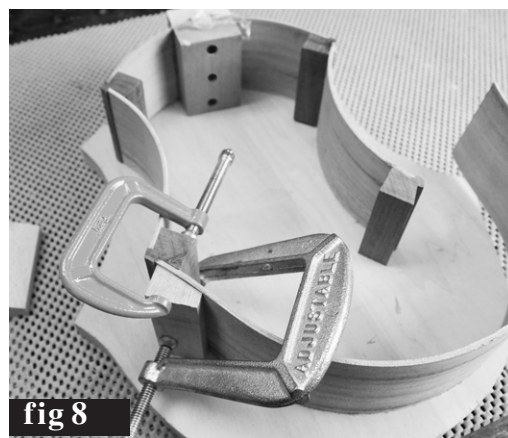

fig 8
8. Glue just one end of the long tail rib to one corner block, as shown (fig 8). Let the entire assembly dry overnight (or 8 hours) before proceeding to close the frame. If you proceed too quickly, the glue is likely to break at one or more of the corners. It takes about 8 hours for most woodworking glue to harden completely.